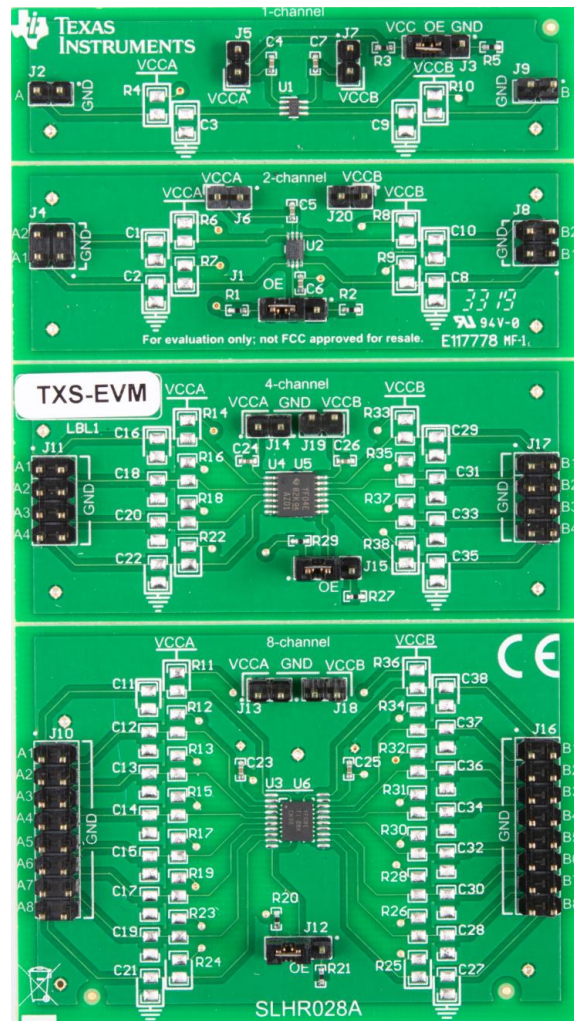

Figure 1. TXS-EVM
Each data I/O trace connects to an 0805 surface mount (SM) pad with access to V_{CCA} for customizable pull-up resistors and an 0805 SM pad with access to GND for a customizable load. Large pads were chosen for ease of access and the option to compose a load out of multiple, smaller, SM components if desired (for load tests, rise/fall time adjustments, etc..). Figure 1 shows the SM pad locations. Pull-down pads are marked with a ground symbol, pull-up pads are marked with a power port symbol on the board.